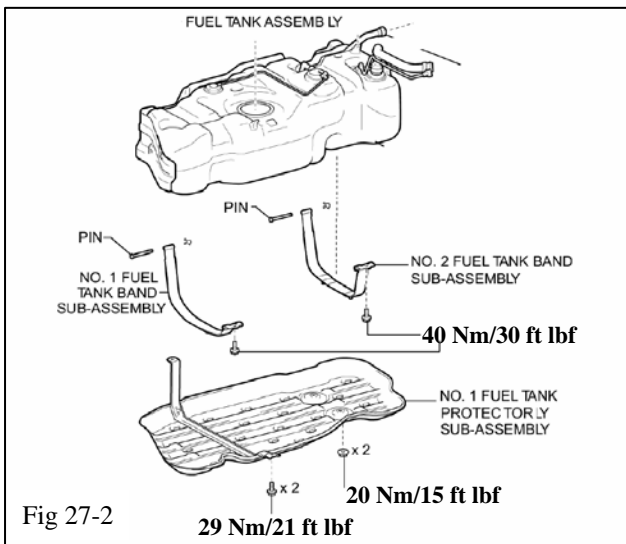

Fig 27-2
- (c) When re-installing the fuel tank assembly please use the torque specifications indicated in Fig. 27-2.